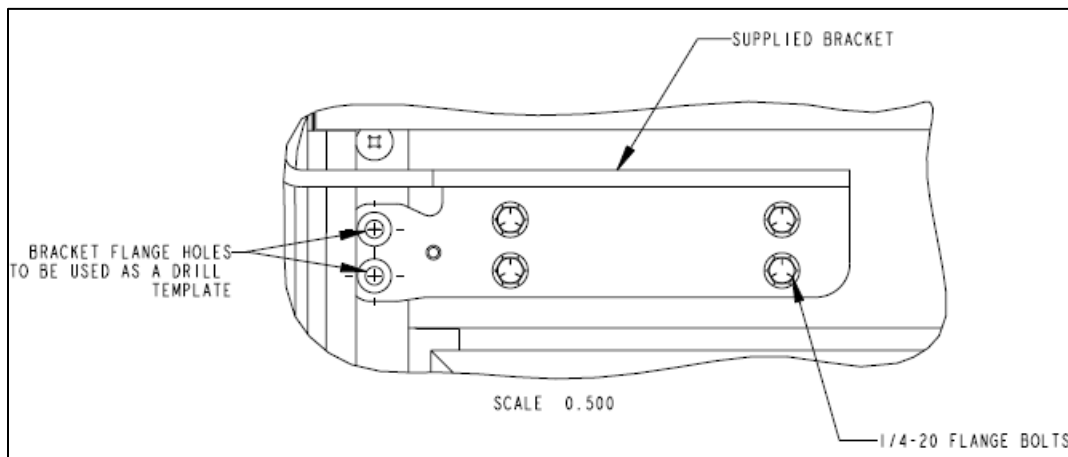

Figure 2: New bracket as a drilling template
- 7) Using the two holes in the flange of the bracket as shown in **Figure 2** (drilling into the blind cavity only), with a 1/4 in. drill bit, drill a hole in each of these two holes located inside the pivot door tube.